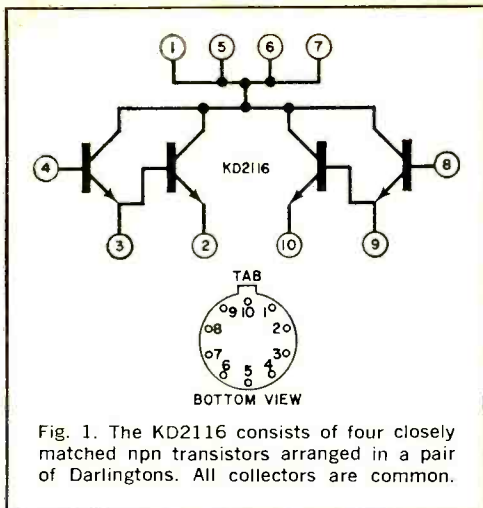

Fig. 1. The KD2116 consists of four closely matched npn transistors arranged in a pair of Darlington's. All collectors are common.
**KD2116.** This 10-lead integrated circuit consists of four transistors connected to form two independent Darlington pairs as shown in Fig. 1. The closely